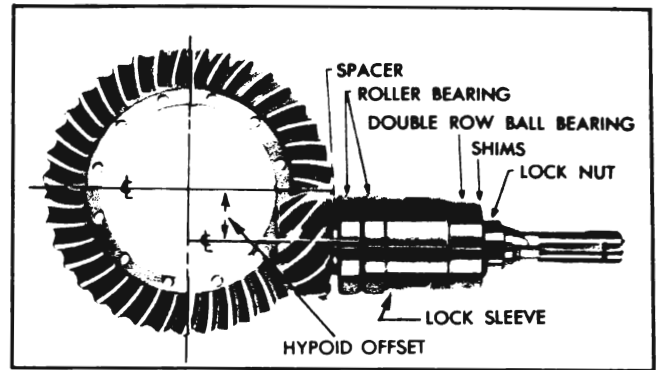

Figure 5-19—Gear Set with Bearings and Lock Sleeve
1. Install parts on pinion shaft in the following order: rear bearing spacer, two rear bearings (roller), bearing lock sleeve with thick end toward spline, front bearing (ball) with shielded side toward spline. See figure 5-19. Press front bearing solidly against shoulder on pinion shaft, using a tube of proper size to bear against inner race only. **NOTE:** *Bearing may be brinnelled if driven into place.*